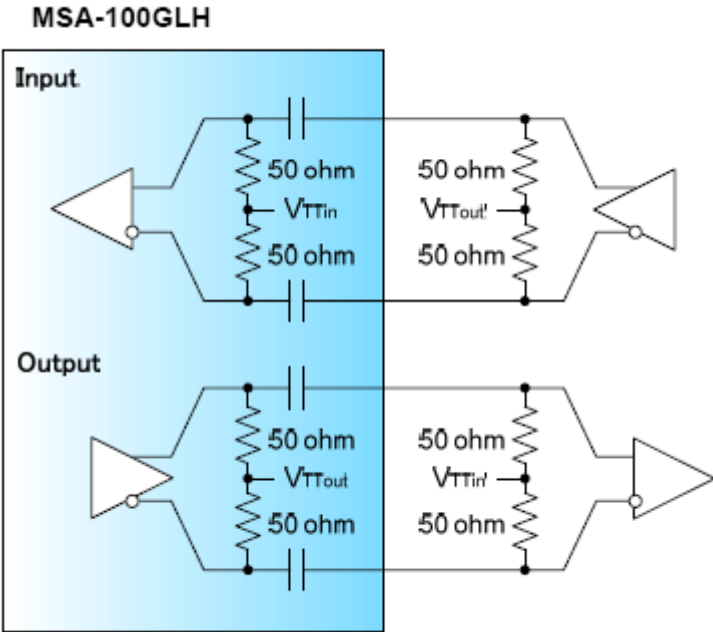

Figure 2: High Speed I/O for Data and Clocks
8.3.1 Transmitter Data (TX)
The Transmitter Data (TX) signals shall comply with CEI-11G-MR Low Swing option as per Clauses 9.3.1. and 9.3.1.2 [N2]. Full Swing support is not required. The recommended termination of the TX pins is given in Figure 2.
8.3.2 Receiver Data (RX)
The Receiver Data (RX) signals shall comply with CEI-11G-MR Clause 9.3.3 [N2]. The recommended termination of the RX pins is given in Figure 2.
The REFCLK shall be CML differential AC coupled and terminated with 50 Ohm internal V_{TT} within the MSA-100GLH, as shown in Figure 2. A frequency locked relationship is required between the transmit data lanes (TX/TXDSC) and the reference clock (REFCLK). There is no required phase relationship between the data lanes and the reference clock. The REFCLK frequency shall not deviate from nominal by more than ±20 ppm. Detailed reference clock characteristics for the MSA-100GLH are given in Table 2.
applications¹. This rate is optimized for triggering high-speed sampling scopes. Clock termination is shown in Figure 2. TXMCLK characteristics are summarized in Table 3.
The MSA-100GLH optionally may supply a receiver monitor clock (RXMCLK). This clock is intended to be used as a reference for measurements of the module receive data. If provided, the clock shall operate at 1/16 of the receiver electrical lane data rate. The RXMCLK may optionally operate at 1/64 of the receiver electrical lane data rate. Clock termination is shown in Figure 2. RXMCLK characteristics are summarized in Table 3.